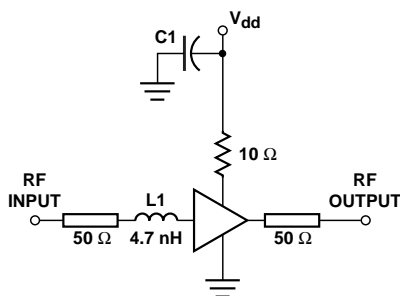

Figure 10. Test Circuit for 2 GHz.
3. Guaranteed specifications are 100% tested in the circuit in Figure 10 in the Applications Information section.
The circuit shown in Figure 10 is used for 100% RF testing of Noise Figure and Gain. The input of this circuit is fixed tuned for a conjugate power match (maximum power transfer, or, minimum Input VSWR) at 2 GHz. Tests in this circuit are used to guarantee the  $NF_{test}$  and  $G_{test}$  parameters shown in the Electrical Specifications table.
The test circuit in Figure 10 illustrates a suitable method for bringing bias into the MGA-87563. The bias connection must be designed so that it adequately bypasses the  $V_{dd}$  terminal while not inadvertently creating any resonances at frequencies where the MGA-87563 has gain.
The input of the MGA-87563 is partially matched internally to 50  $\Omega$ . The use of a simple input conjugate matching circuit (such as shown in Figure 10 for 2 GHz), will lower the noise figure considerably. A significant advantage of the MGA-87563’s design is that the impedance match for  $NF_o$  (minimum noise figure) is very close to a conjugate power match. This means that a very low noise figure can be realized simultaneously with a low input VSWR. The typical difference